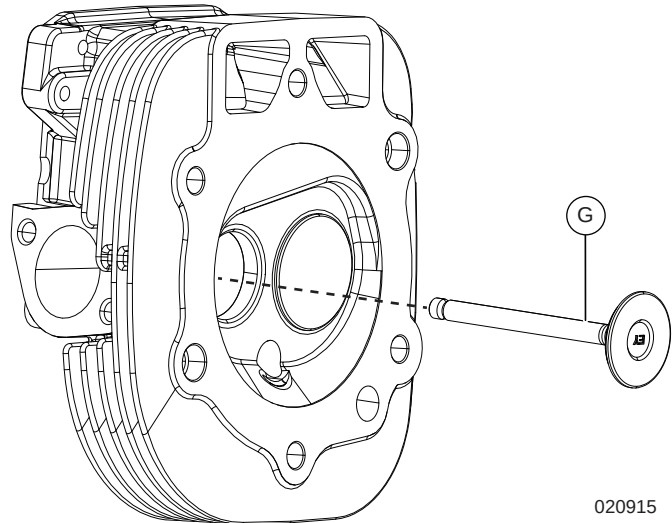

Figure 8-7. Install Exhaust Valve into Cylinder Head
6. See Figure 8-7. Repeat steps 1– 5 to install exhaust valve into cylinder head assembly.